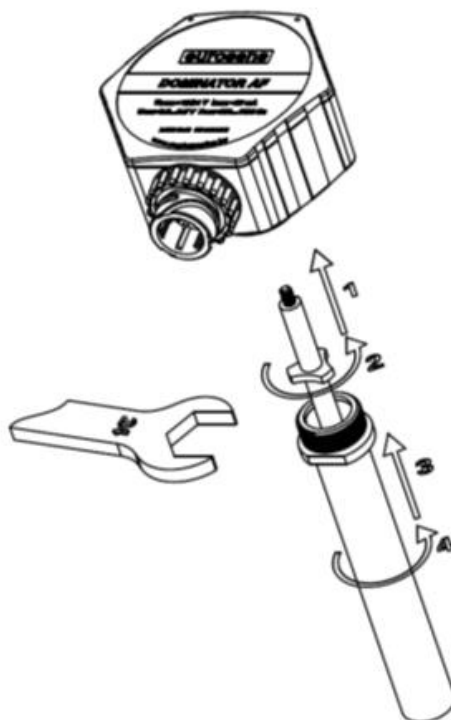

fig. 4.6. Connecting electrodes to electronic module of sensor
After cutting, it is necessary to carefully remove all foreign contaminants from the internal space between the electrodes. You can remove the electrodes and clean them, if necessary. (fig. 4.6).
1. If necessary, connect the measuring electrodes to the electronic module of the sensor. Note that firstly you need to screw in the inner electrode (it can be pulled out of the outer electrode as shown in fig. 4.6), then screw in the outer electrode.